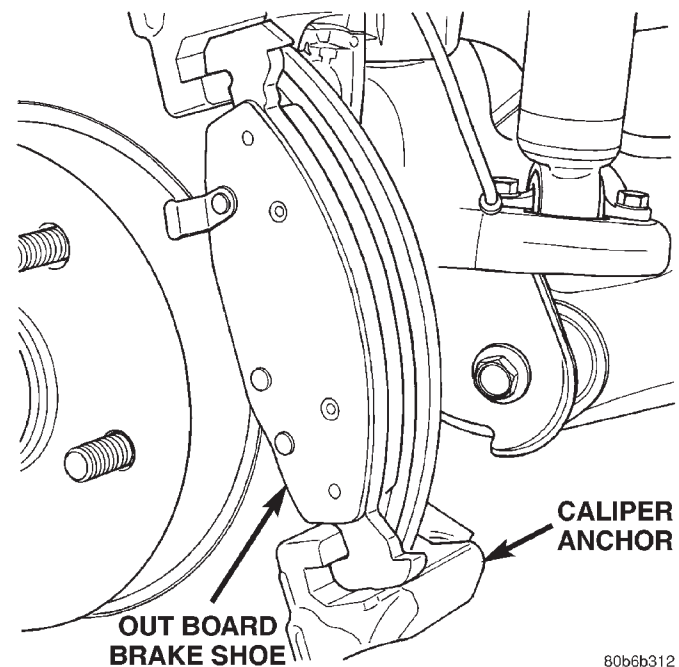

Fig. 31 Outboard Brake Shoe
(10) Remove the outboard brake shoe (Fig. 31) from the caliper anchor.
(2) Install the outboard shoe onto the caliper anchor (Fig. 31).
(3) Lubricate the slide pins and slide pin bushings with Dow Corning® grease G807 or the grease provided with the brake shoes.